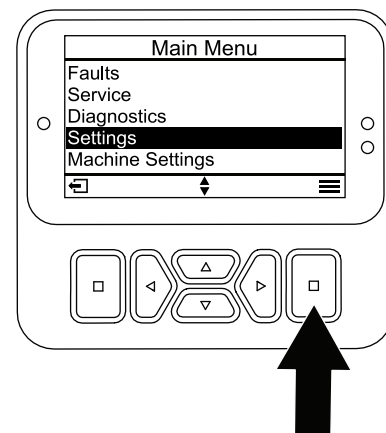

Figure 20
1. From the MAIN MENU, scroll down to the SETTINGS menu and press the select button (Figure 20).